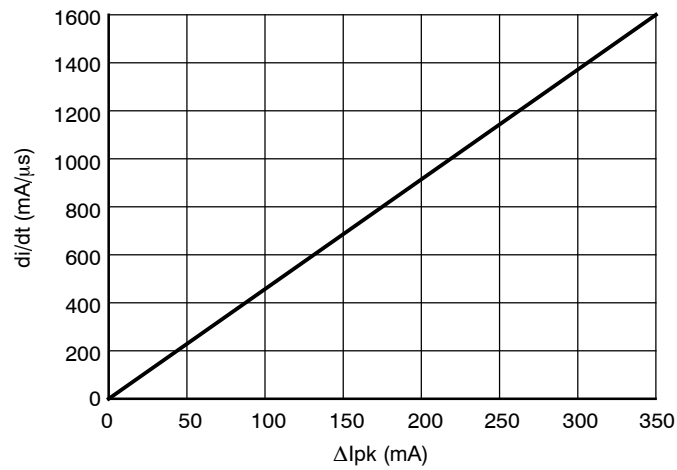

Figure 16. Power Switch Circuit di/dt vs. ΔI_{pk}
9. Actual peak switch current is increased due to the propagation delay time and the di/dt (see Figure 16).
The current limit propagation delay time is typically 220 ns. This time is measured from when an overcurrent appears at the Power Switch Circuit drain, to the beginning of turn-off. Care must be taken during transformer saturation so that the maximum device current limit rating is not exceeded. To determine the peak Power Switch Circuit current at turn off, the effect of the propagation delay must be taken into account. To do this, use the appropriate Current Limit Threshold value from the electrical tables, and then add the ΔI_{pk} based on the di/dt from Figure 16. The di/dt of the circuit can be calculated by the following formula: